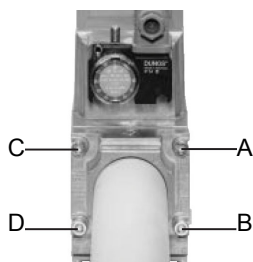

Fig. 11
1. Loosen screws A and B **do not** unscrew (Fig. 10 - Fig. 11).
2. unscrew screws C and D (Fig. 10 - Fig. 11).
3. Remove MultiBloc between the threaded flanges (Fig. 11).